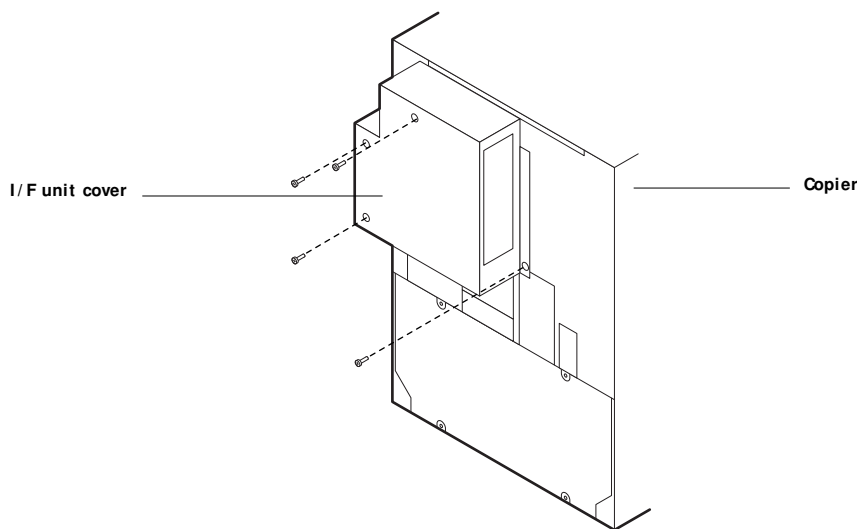

FIGURE 2-2 Removing the I/F unit cover
1. Replace the I/F unit cover with the four screws you removed earlier (see Figure 2-2 on page 2-4).